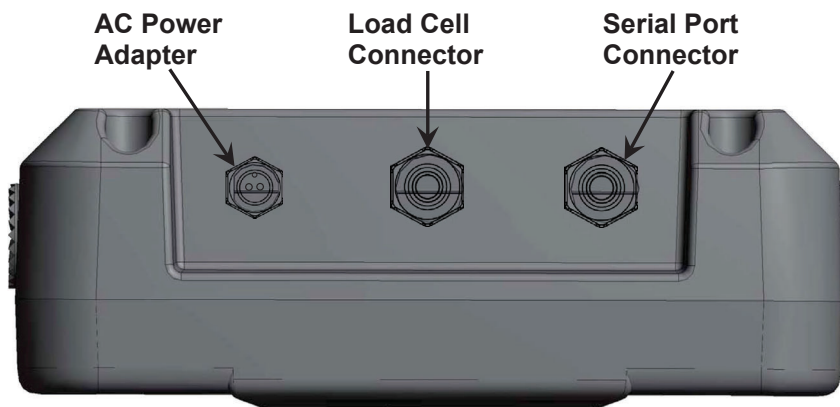

Figure No. 2
To power the Model 185 or 185B using the 12 VDC wall plug-in AC power adapter, connect the plug from the adapter into the power jack on the bottom panel of the indicator and then plug the power adapter into the proper electrical outlet. Refer to Figure No. 2.
The following instructions describe the load cell connection through a standard gland connector. Refer to Figure No. 2 for illustration of connector layout.
1. Remove the four (4) Phillips screws securing the back panel to main housing, and then loosen the center gland connector for the load cell cable. Refer to Figure No. 2 for illustration of connector layout.
1. Remove the four (4) Phillips screws securing the back panel to main housing, and then loosen the right gland connector for the serial cable. Refer to Figure No. 2 for illustration of connector layout.